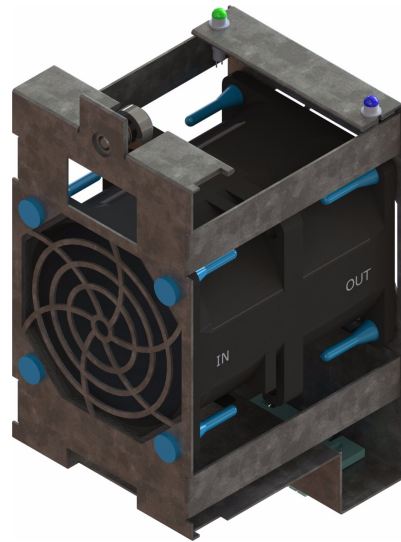

Figure 4-4 Fan Module
- Remove the front chassis cover (see “Removing the Front or Rear Chassis Cover” on page 125) and locate the fan module with the illuminated blue LED (Figure 4-4).